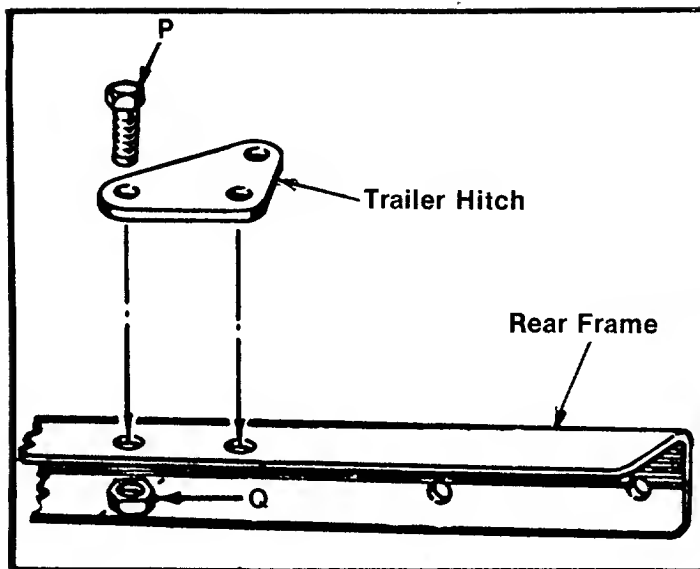

FIGURE 10. TRAILER HITCH
7. Position the trailer hitch on the center of the rear frame section and fasten with bolts (P) and nuts (Q). See figure 10.